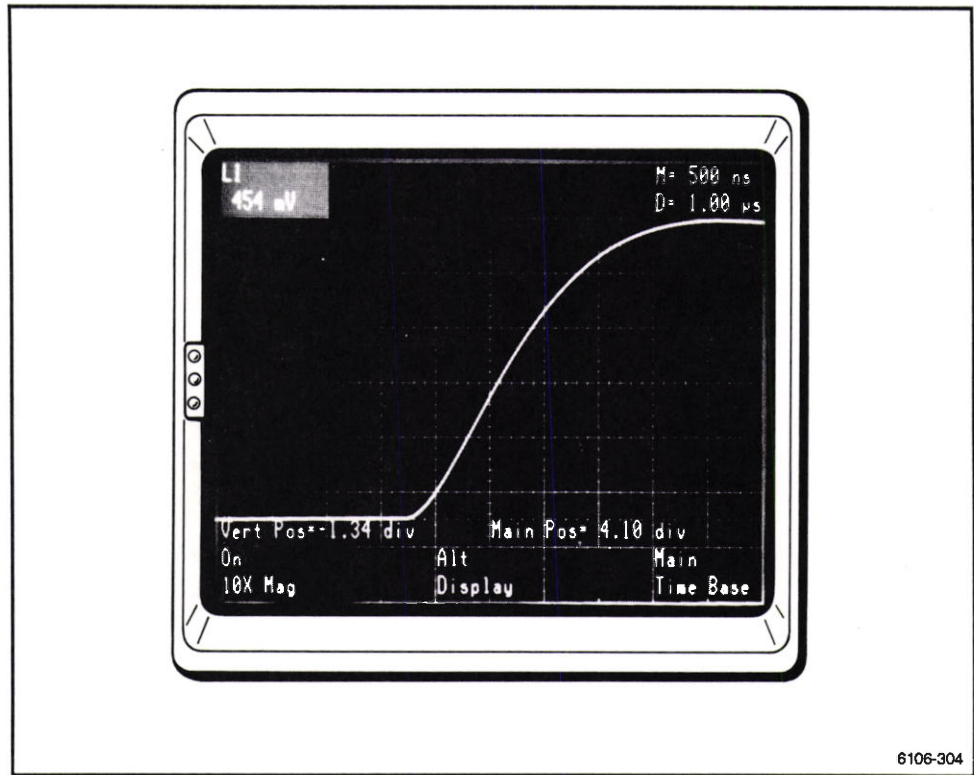

Figure 2-105. 10X Magnified signal.
5. Touch *10X Mag* to read **On**. (See Fig. 2-105.)